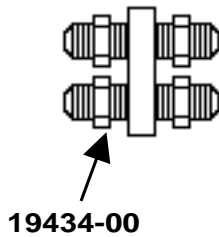

Fig. 6
3. Unscrew and remove two of the fittings from one side of the Hose Junction Block, P/N 19434-00. (See Fig. 6)